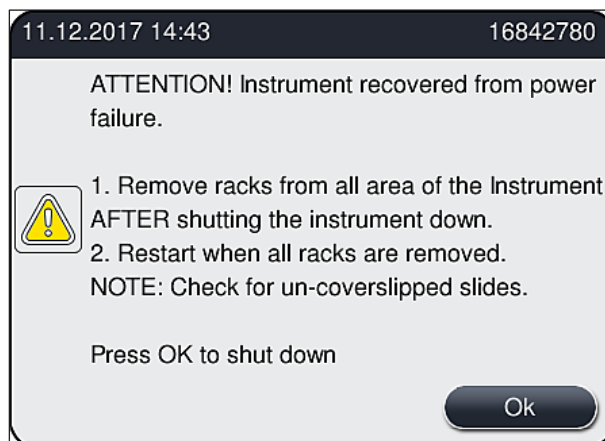

Fig. 107
- After the power supply has been restored, the instrument automatic performs a restart. The user is notified of the power failure by an information message (→ Fig. 107) on the screen, and the event is entered into the event log.
- ① After power supply has been restored, the instrument restarts automatically. An audible warning signal sounds and a warning message is displayed on the display (→ Fig. 107).
Then follow the instructions in the information message (→ Fig. 107) and remove the slides from the instrument.